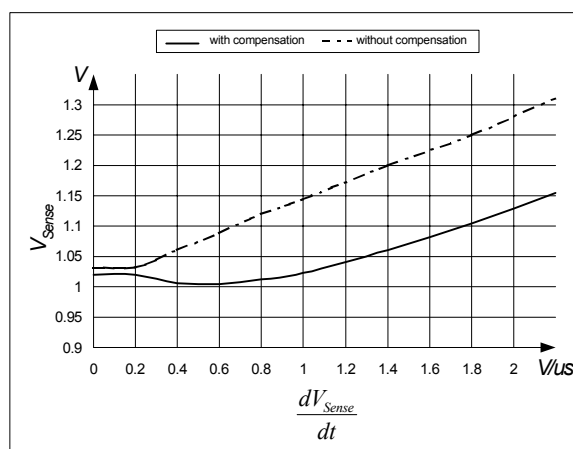

Figure 19 Overcurrent Shutdown
E.g. $I_{peak} = 0.5A$ with $R_{Sense} = 2$. Without propagation delay compensation the current sense threshold is set to a static voltage level $V_{csth} = 1V$. A current ramp of $dI/dt = 0.4A/\mu s$, that means $dV_{Sense}/dt = 0.8V/\mu s$, and a propagation delay time of i.e. $t_{propagation\ Delay} = 180ns$ leads then to a I_{peak} overshoot of 14.4%. By means of propagation delay compensation the overshoot is only about 2% (see Figure 19).